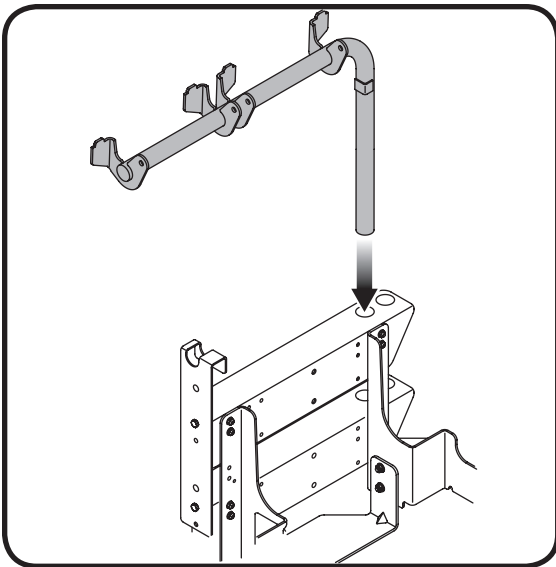

Figure 4-1
1. Place the support tube in position on the rear of unit by sliding the support tube down through the holes in the left side of the bracket assembly. Use the inside hole on the bracket assembly. Refer to Figure 4-1.